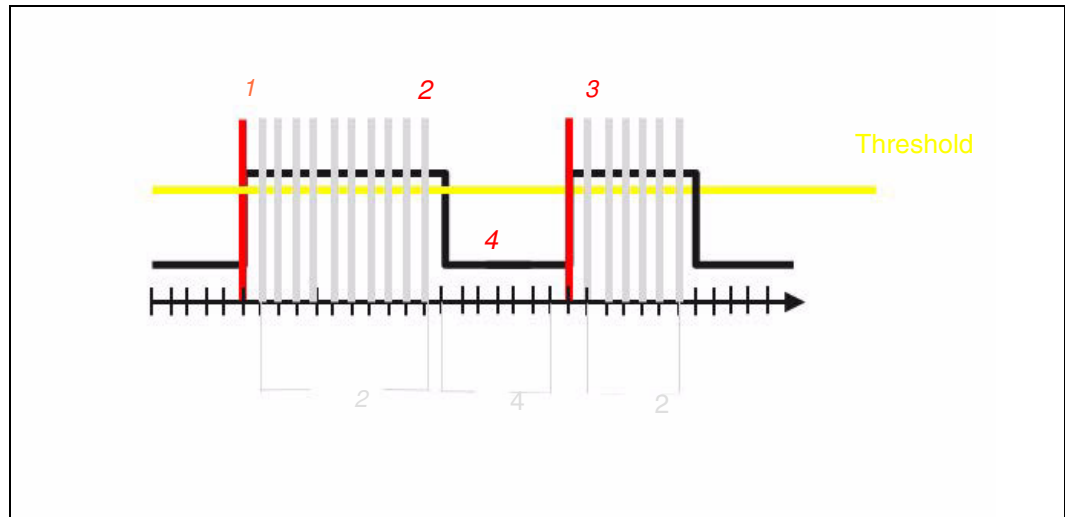

Figure 3-28 Only alert once until problem clears
The notification is triggered at the beginning of the threshold violation (1), and no notifications are sent while the threshold violation persists (2). If the threshold violation recurs (3) after it had been cleared (4), the notification will be sent out again, as shown in Figure 3-28.